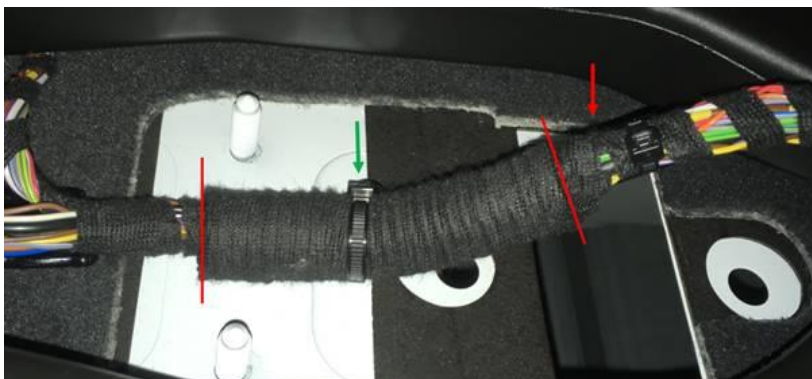

Figure 3. Completed harness protection.
5. Install the corrugated tube part number N 107 328 01 over the wrapped cables between the red lines indicated in Figure 3.
6. Using textile tape N 107 290 02, completely wrap the corrugated tube over the harness so that it cannot slip out of place (red arrow on Figure 3).
7. Use a new cable tie, part number **3D0 971 838 A** and secure the harness to the body (green arrow on Figure 3).